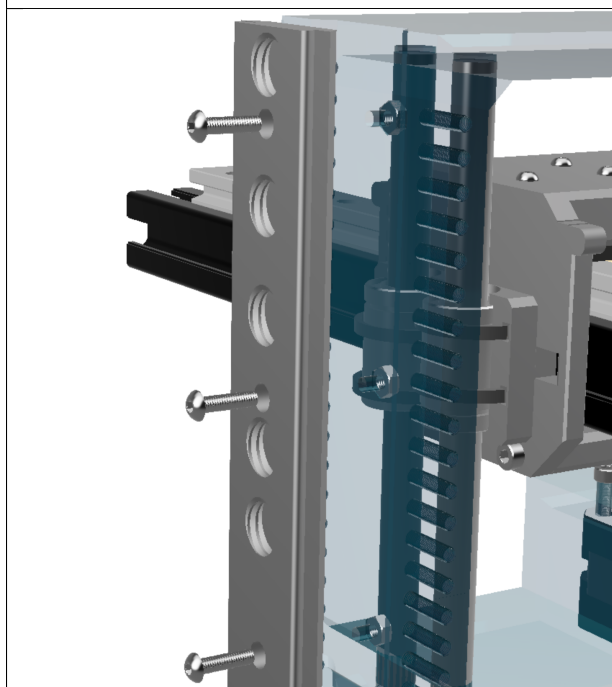

Fig. 3: 3.Optics slider
3. Attach the optics rail to the front of the z-axis assembly (Fig. 3 below).